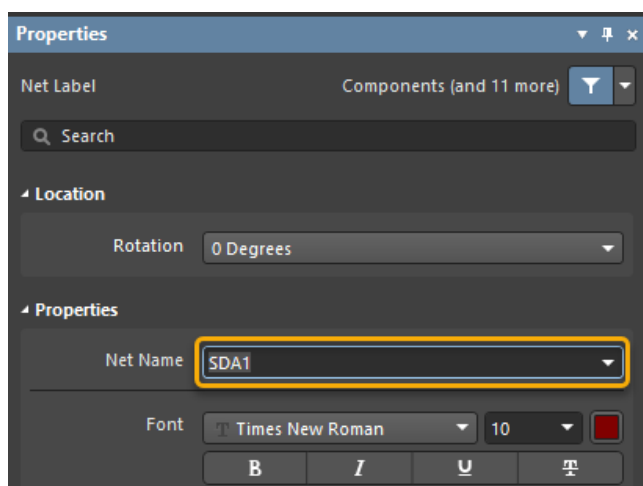

Figure 20. SDA1 Net Label Properties
17. Enter **Net Name** SDA1 as shown in *Figure 20*.